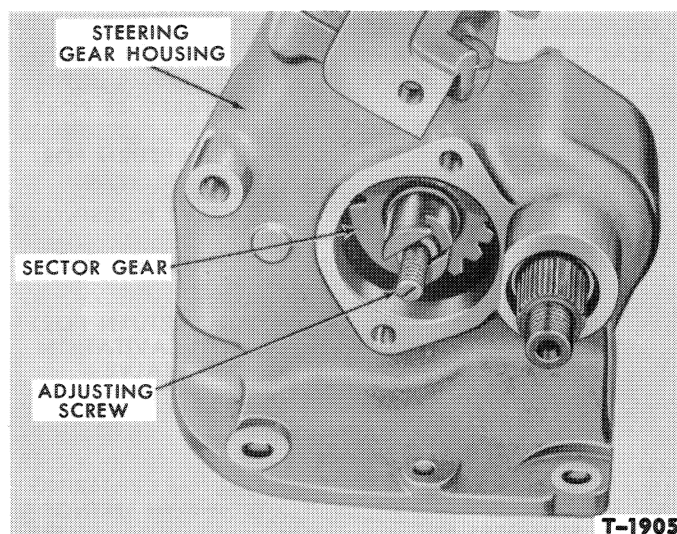

Figure 23—Steering Gear Housing with Sector Shaft Cover Removed
2. Use shim No. 8N-33544 A-B-C or D, on sector shaft adjusting screw to provide a clearance of 0.000 to 0.002 inch between the screw head and the shaft end inside the T-slot, Figure 23.